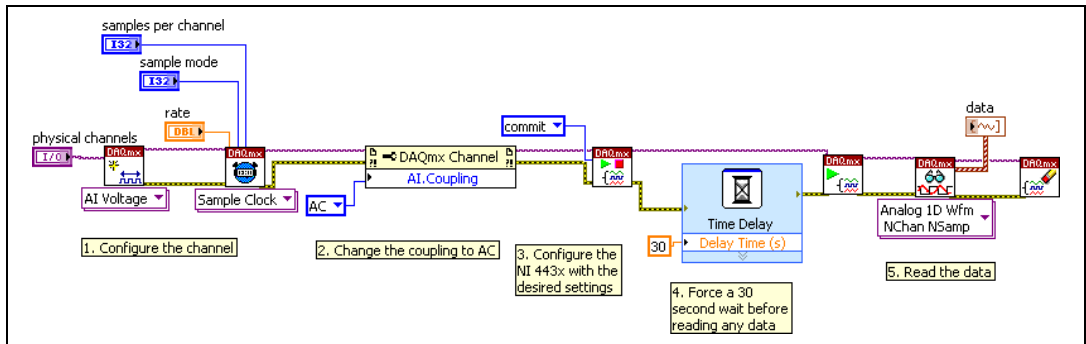

Figure 2. Explicitly Setting Configuration Settings with the DAQmx Control Task VI
For flexibility, NI-DAQmx gives you the ability to download channel configuration settings to hardware at any point by calling the DAQmx Control Task VI with the `commit` option as shown in Figure 2. When programmed this way, the DAQmx Control Task VI ensures that the wait occurs after the coupling setting has changed on the device.
2. Using Figure 2 as a guide, create and configure an AI voltage task on the NI USB-443x as shown in Table 2.
- Using Figure 2 as a guide, create and configure an AI voltage task on the NI USB-443x as shown in Table 5.